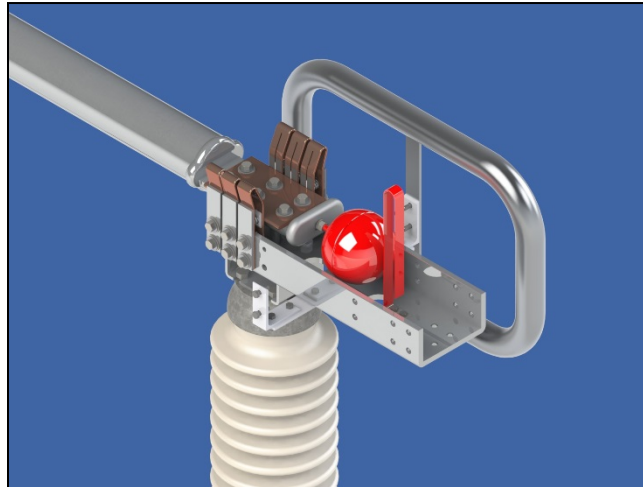

Figure 8: Arcing Horn Attachment
- 3.1.3. Arcing horns should be touching when the switch is fully closed as shown in **Figure 8**. If necessary the jaw (stationary) arcing horn may be bent to achieve proper contact.